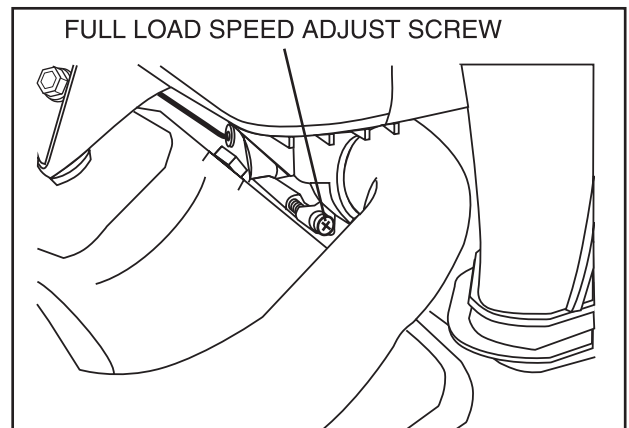

Figure 11. Full Load Speed Adjust Screw V-twin Engines
4. Start unit and apply full load. Use full load speed adjust screw (Figure 11) to adjust frequency to 58 Hz.